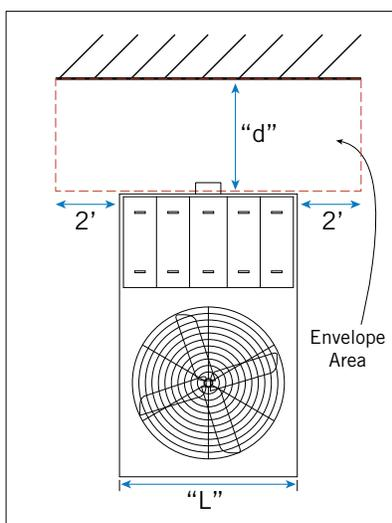

Figure 2a. Plan View of Unit Adjacent to Wall
2. **Air Inlet Requirements:** Should it be necessary to install a unit with the air intake facing a wall, provide at least distance “d” between the air intake and the wall, as illustrated in **Figures 2a** and **2b**.
The envelope area as illustrated on **Figures 2a** and **2b** on **Page 3** is $[(L + 2 + 2) * d] + 2(H+h) * d$], where: